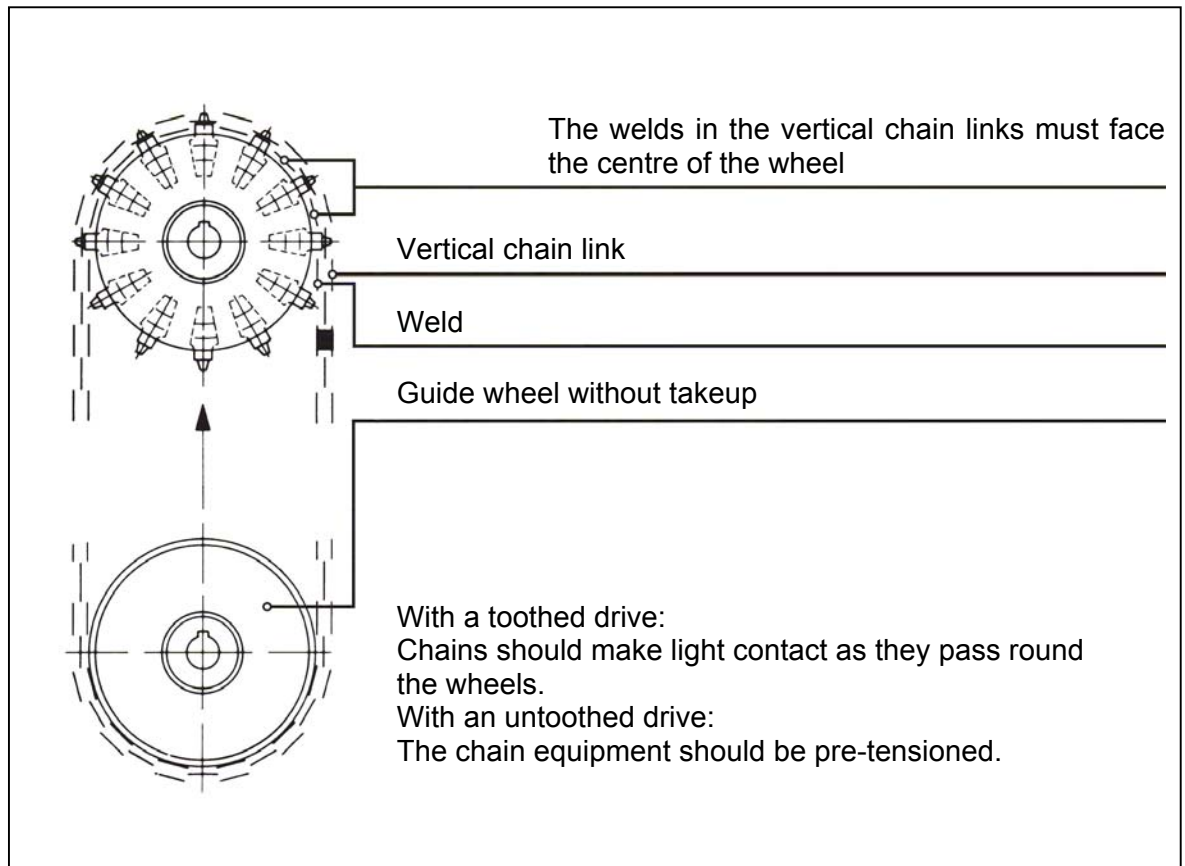

Fig. 4
4.5 Join the ends of the chain loops (fig. 4).